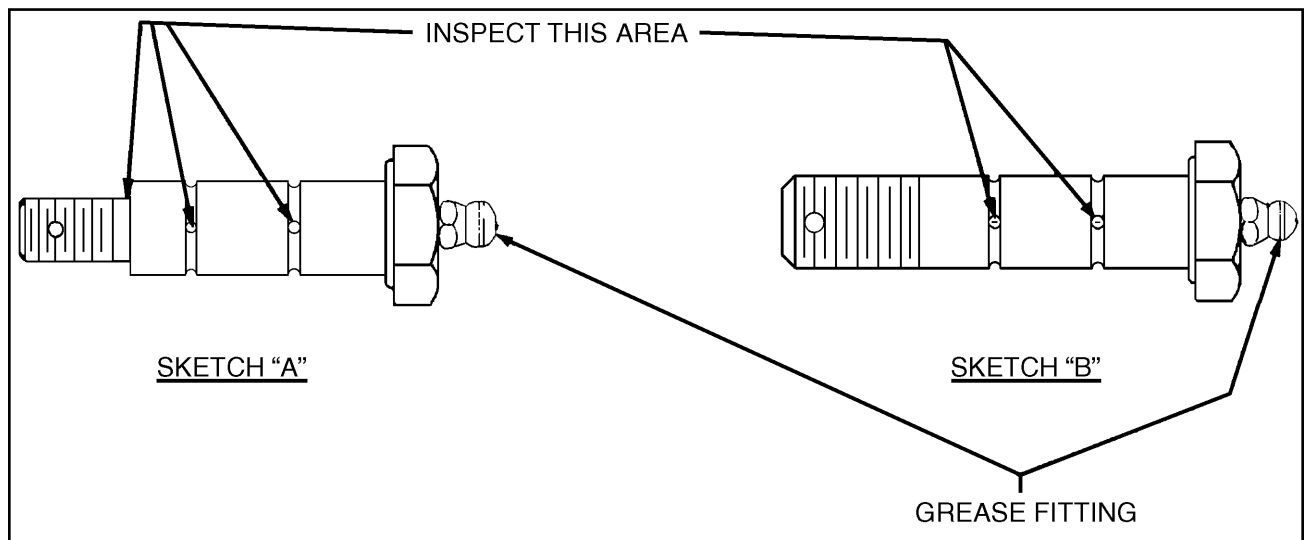

Figure 3-27. Main Landing Gear Torque Link Greaser Bolt Inspection
**NOTE:** The 100 hour inspection requirement can be extended to 500 hours by the installation of Piper Kit No. 760-910V (to replace Sketch "A" bolt) or a new greaser bolt P/N 79543-002 (to replace Sketch "B" bolt) depending on which bolt is being replaced (see Figure 3-27).
- (c) Thoroughly inspect each bolt using a 10X magnifying glass, or dye check, or magnetic partical inspection for cracks as shown in Sketches "A" and "B", Figure 3-27.